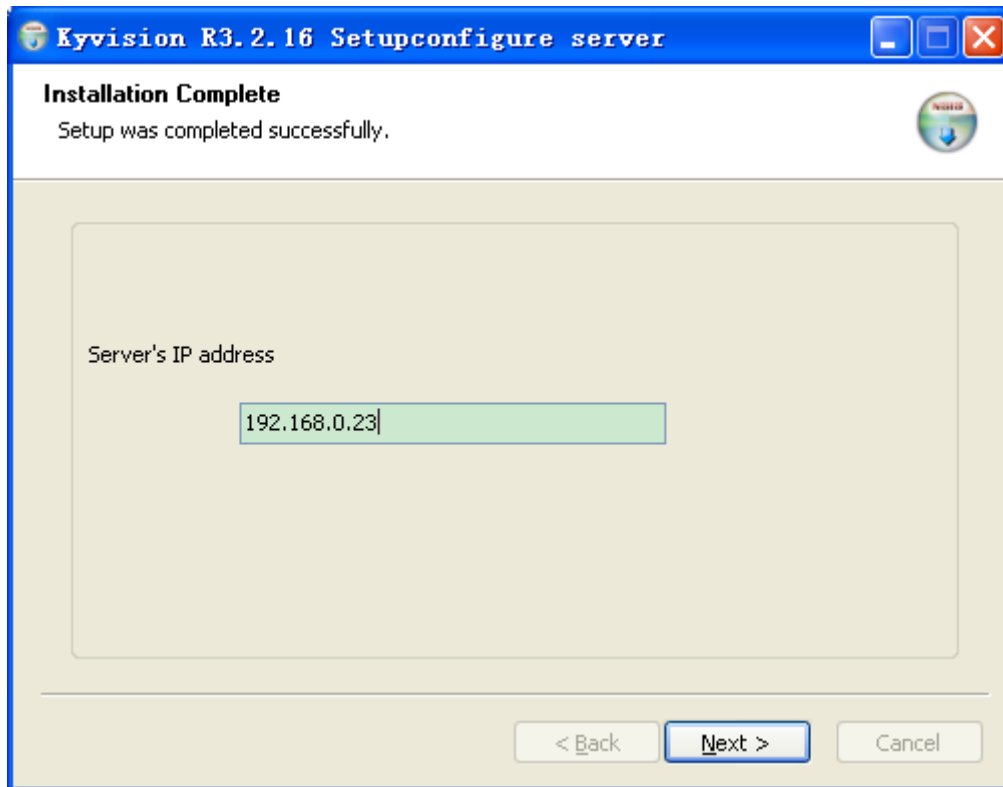
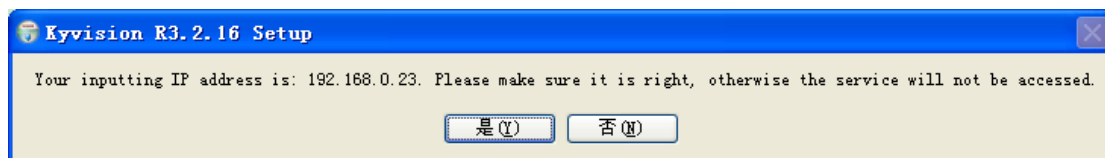

Figure 9 Setting the IP Address
Figure 10 Confirming the IP Address
8.If you select the client mode, set the IP address of the server, as shown in Figure 9. Click <Next>. The IP address confirming dialog box is displayed, as shown in Figure 10. Click <Yes>.